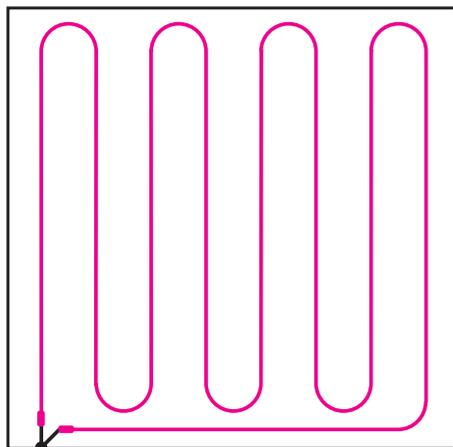

Fig. 1
12. The DSIA-25 is a single-conductor cable, which means that both ends have to be connected to the thermostat, this has to be taken into consideration when laying out the cable (see fig. 1).